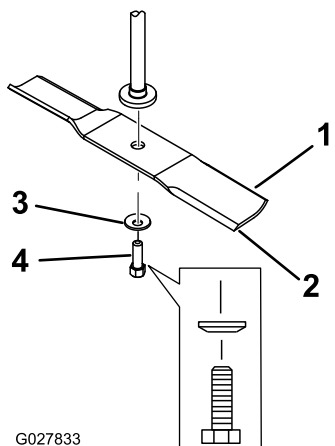

Figure 60
2. Remove the blade bolt, curved washer, and blade from the spindle shaft (Figure 60).
1. Install the blade onto the spindle shaft (Figure 60).
2. Install the curved washer (cupped side toward the blade) and the blade bolt (Figure 60).